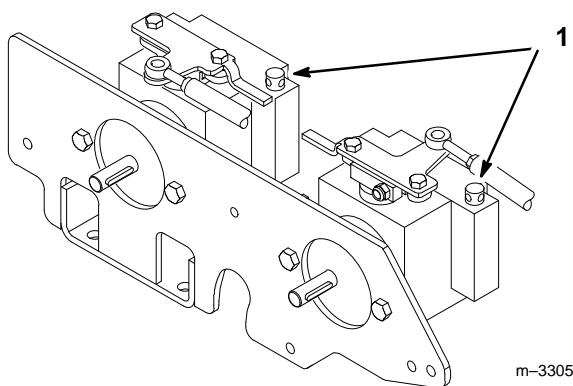

Figure 18
2. Rotate pump by-pass valves counterclockwise 2 turns to push. This allows hydraulic fluid to by-pass the pump enabling the wheels to turn (Fig. 18).
1. Turn the by-pass valves in to operate (Fig. 18).